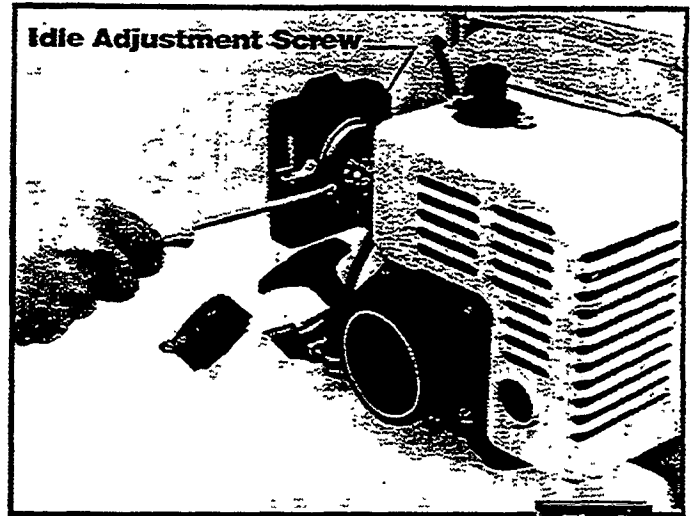

Fig. 9
1. Adjust the idle speed with the idle adjusting screw. Turning clockwise will increase idle speed and counter-clockwise will reduce idle speed. (Fig. 9)